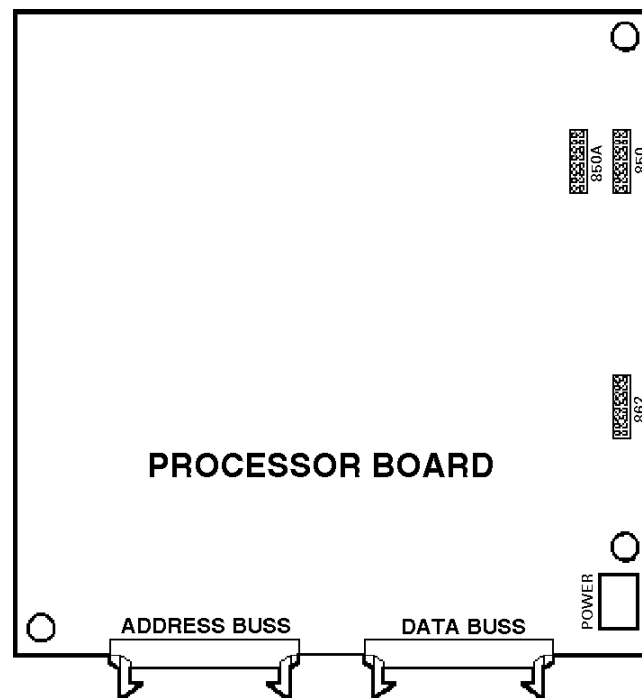

Fig. 4-3 Processor board.
7. Reconnect all leads (previously removed) to their proper connections (refer to Fig. 4-3).